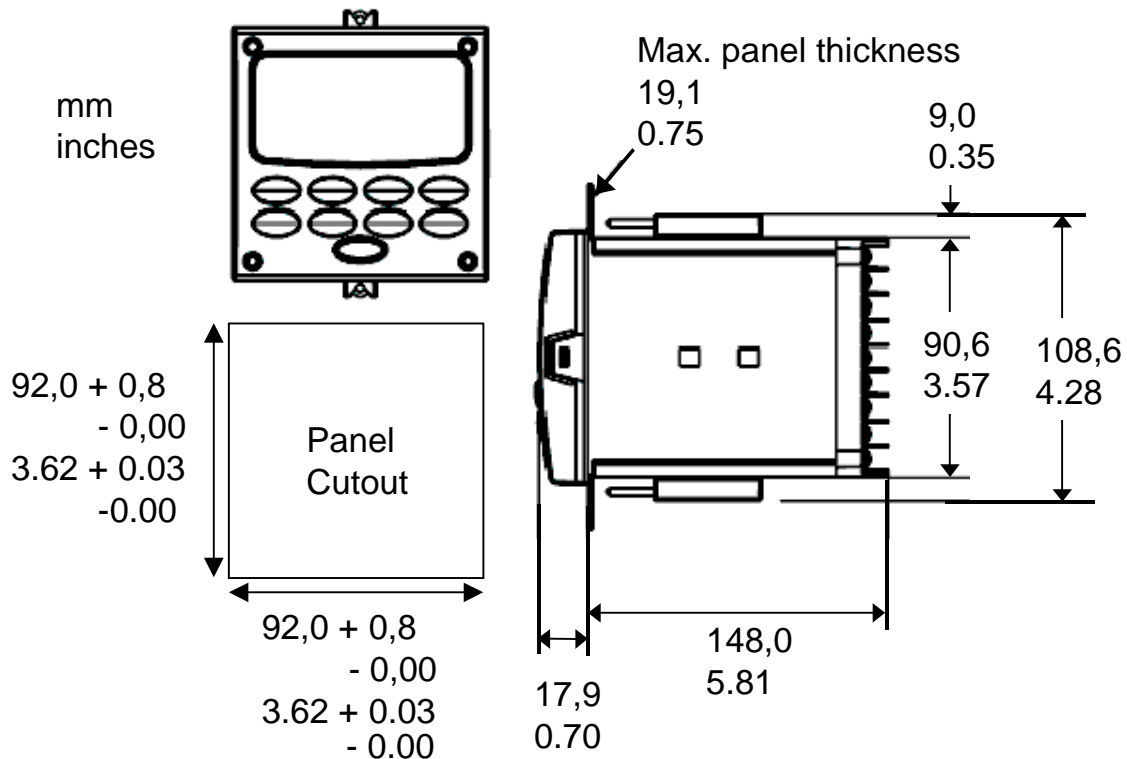

Figure 1 Mounting Dimensions (not to scale)
- Overall dimensions and panel cutout requirements for mounting the controller are shown in Figure 1.
- The front panel is moisture rated NEMA3 and IP55 rated and can be easily upgraded to NEMA4X and IP66. See Figure 1 and Table 1 Mounting Procedure.
1	Mark and cut out the controller hole in the panel according to the dimension information in Figure 1.